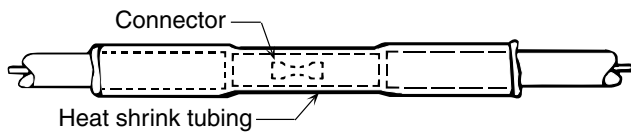

Figure 4-6: Heat-Shrink Tubing Applied
- E. Center tubing over butt connector and apply heat evenly with a torch (match or lighter will not supply enough heat, Figure 4-6).